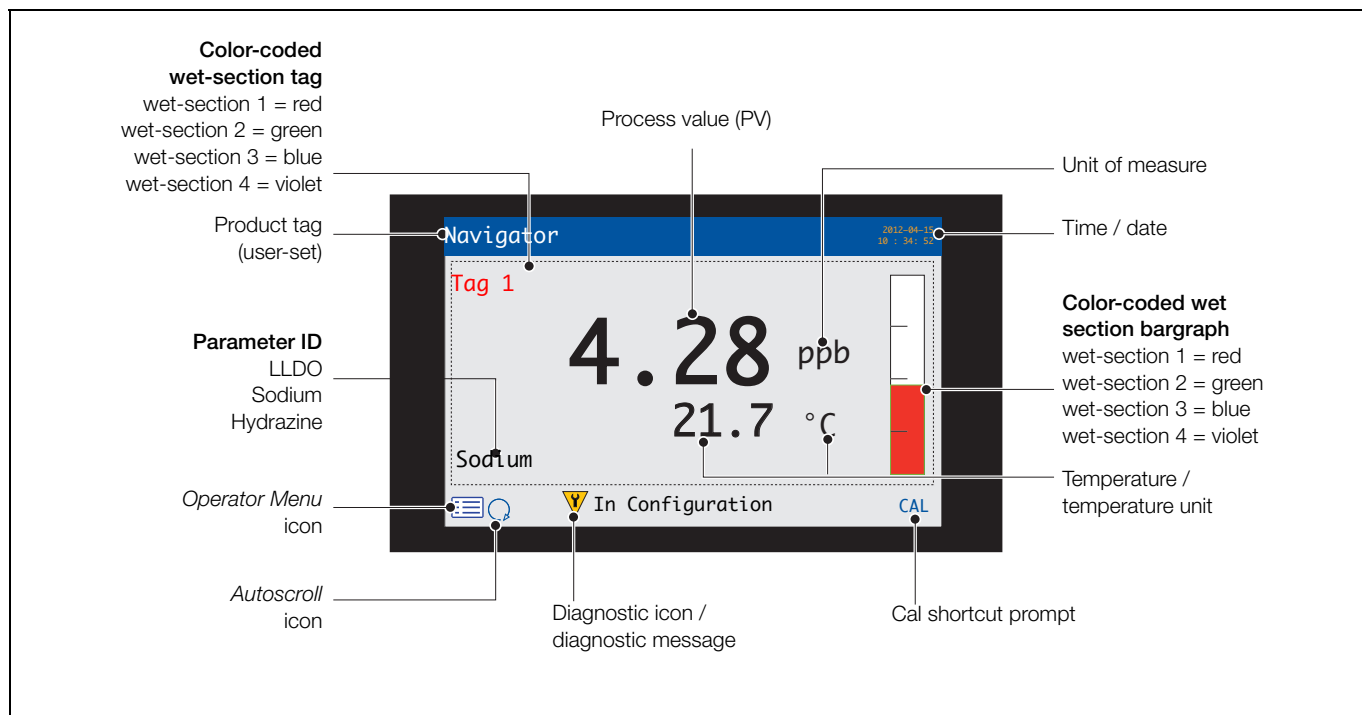

Fig. 6.5 Operator Pages 2 to 5 – overview
Fig. 6.5 shows an overview of *Operator Pages 2 to 5*. Each *Operator Page* displays the process value (PV) and temperature from a single wet-section. Fixed, color-coded, user-assignable tags (one for each connected wet-section) and color-coded bargraphs aid identification of each wet-section.